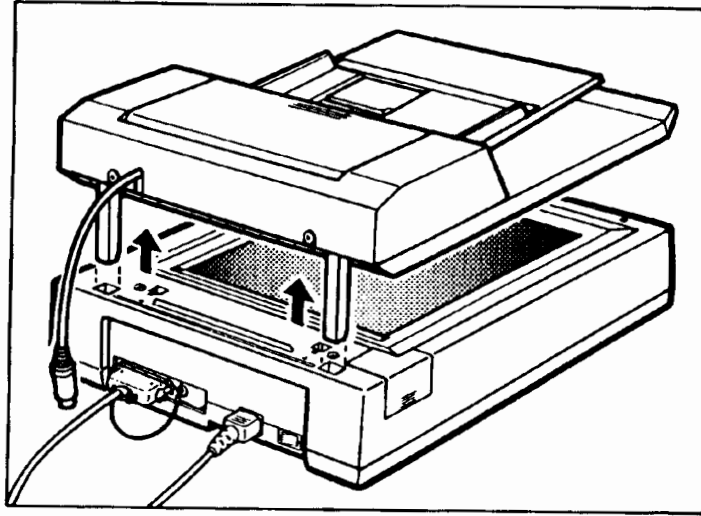

Figure D-21. Removing the ADF
3. Remove the ADF. Store it in its original box to protect it. See figure D-21.